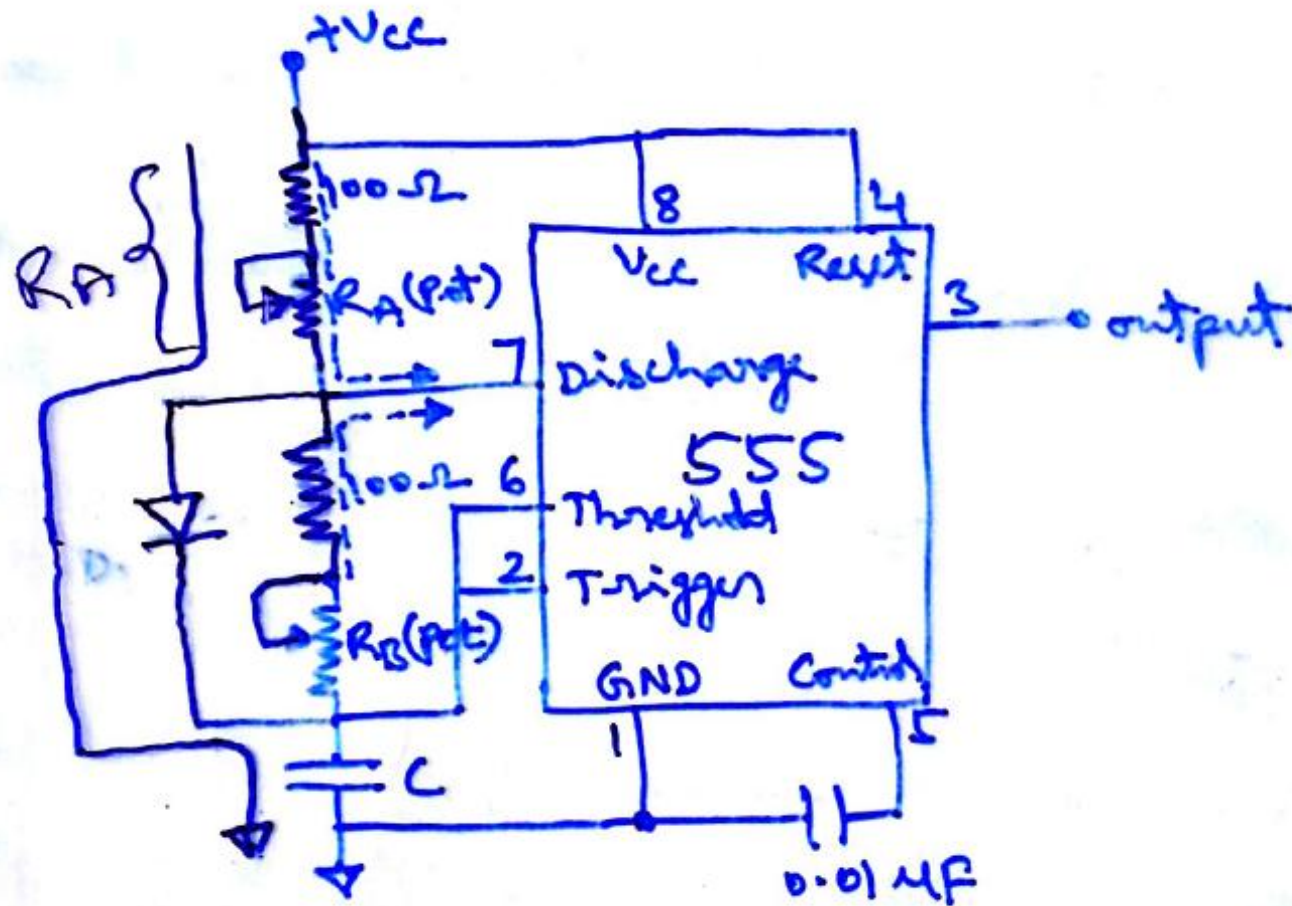

Fig 8.19 Adjustable duty cycle rectangular wave generator.
- An alternate circuit which will allow duty cycle to be set at practically any level is shown in Figure 8.19.